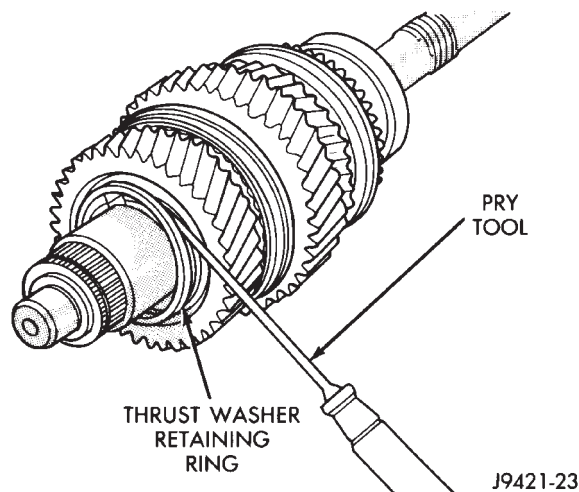

Fig. 39 Thrust Washer Retaining Ring Removal
(4) Remove retaining ring that secures two-piece thrust washer on shaft (Fig. 39). Use small pry tool to remove retaining ring.